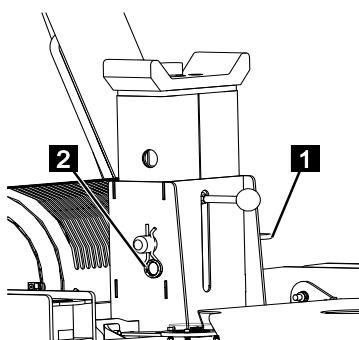

Fig. 118
7. Insert the fastening bolt (Fig.118/1) and secure it with the spring cotter pin (Fig.118/2).